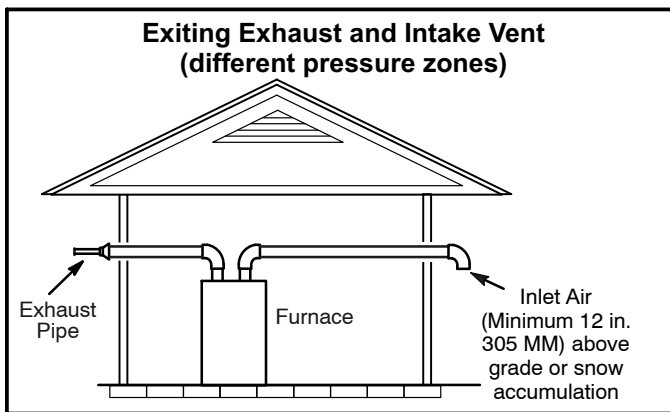

FIGURE 32
1. Intake and exhaust terminations are not required to be in the same pressure zone. You may exit the intake on one side of the structure and the exhaust on another side (figure 32). You may exit the exhaust out the roof and the intake out the side of the structure (figure 33).